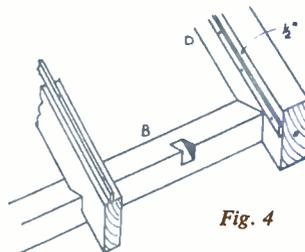

Fig. 4
The glazing bars of the roof are of 3/4in. by 1 1/2ins. sparring with 1/4in. by 3/8in. or 1/2in. strip nailed on to hold the glass. Slots are made in the eaves beam (B) to hold the bars. See Fig. 4. These slots should be positioned so that their distance apart allows easy fitting of the glass. (This drawing also shows strip-